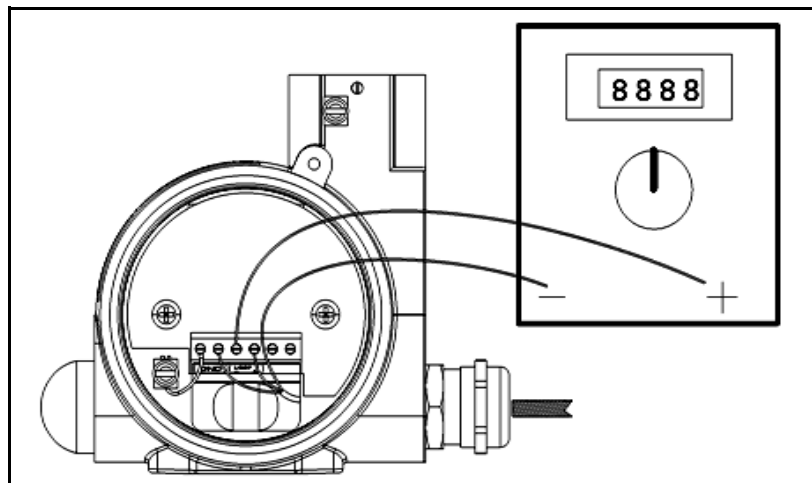

Figure 12: Ammeter Connections
3. Connect the ammeter into the loop as shown in *Figure 12* below.